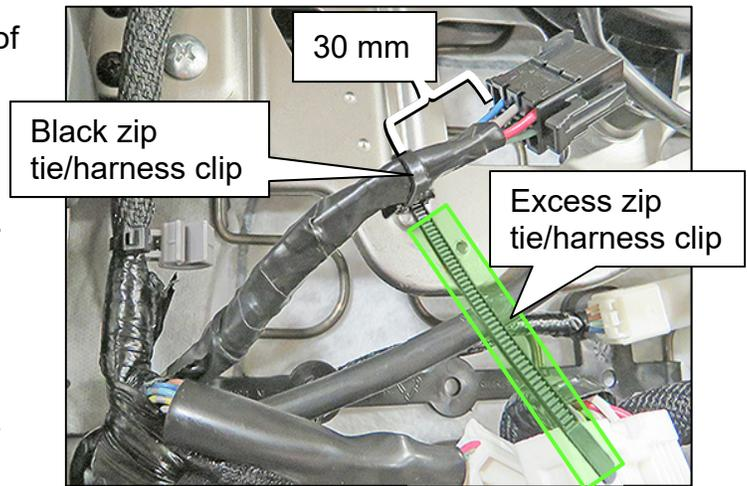

Figure 29
38. Attach the black zip tie/harness clip provided, where shown in Figure 29.